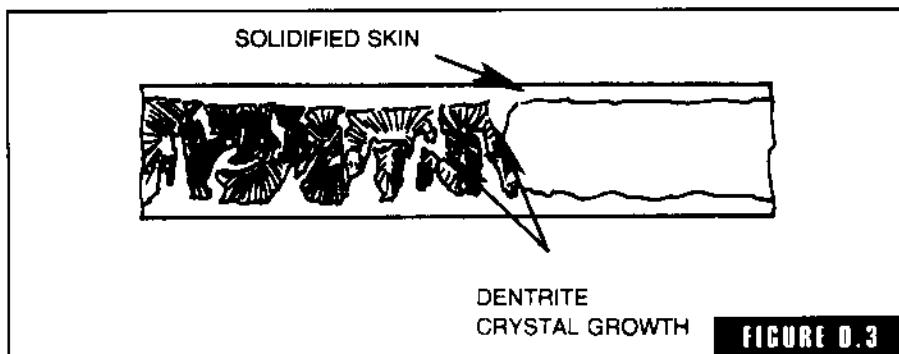

FIGURE D.3
**dendrite** The crystals formed during solidification (Fig. D-3). As a casting starts to freeze in the mold, the metal in immediate contact with the walls of the mold will freeze first, forming a thin layer of equi-axed crystals. Dendrite crystals then grow or shoot